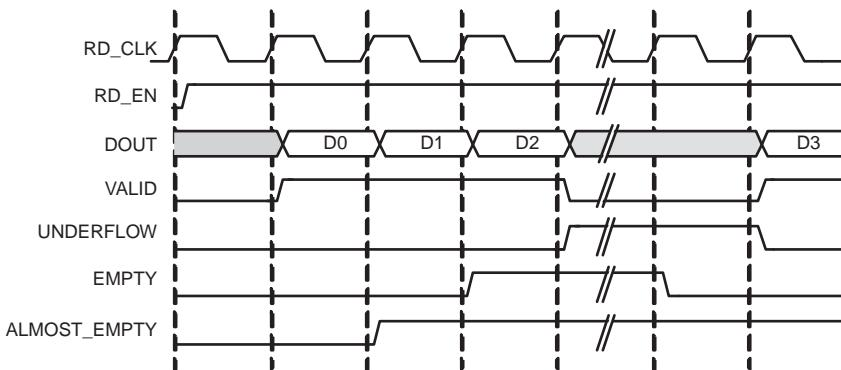

Figure 4-7: Standard Read Operation for a FIFO with Independent Clocks
**Figure 4-7** shows a standard read access. Once the user writes at least one word into the FIFO, EMPTY is deasserted—indicating data is available to be read. The user asserts RD\_EN, causing a read operation to occur on the next rising edge of RD\_CLK. The FIFO outputs the next available word on DOUT and asserts VALID, indicating a successful read operation. When the last data word is read from the FIFO, the FIFO asserts EMPTY. If the user continues to assert RD\_EN while EMPTY is asserted, the read request is ignored, VALID is deasserted, and UNDERFLOW is asserted. Once the user performs a write operation, the FIFO deasserts EMPTY, allowing the user to resume valid read operations, as indicated by the assertion of VALID and deassertion of UNDERFLOW.